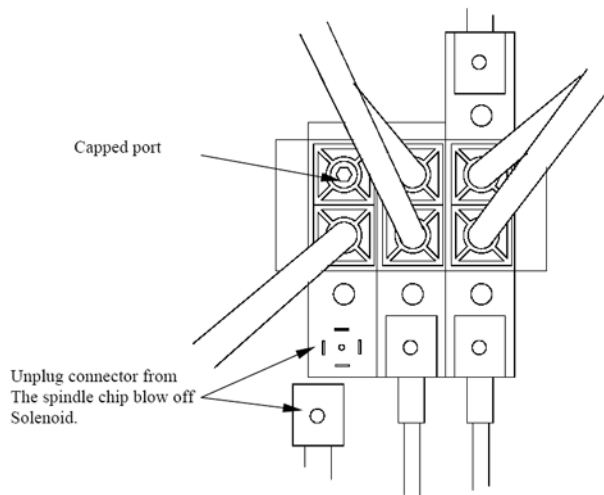

Figure 2
2. Unplug the electrical connector from the spindle air blow through solenoid located on the left side of the main column on the mill. This will be the only solenoid valve that has a port capped off and should be the first valve in the solenoid pack, as illustrated in **figure 2**. This will prevent the spindle blow through from interfering with the tool clamp adjustment.